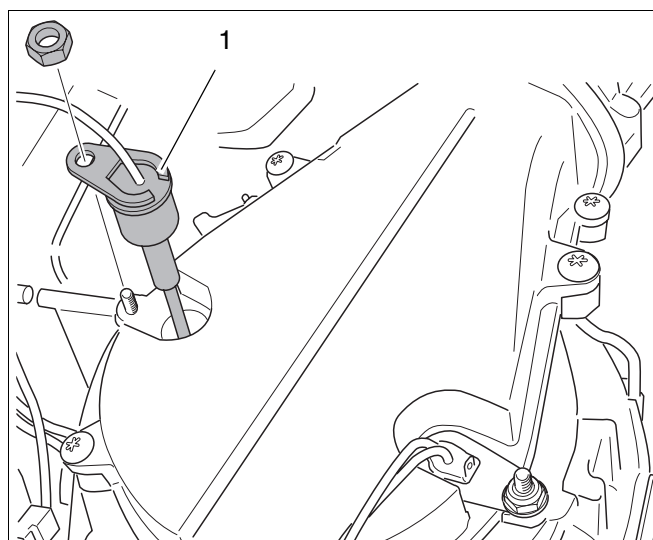

fig. 91 Remove ionisation electrode
- Remove the ionisation electrode (see fig. 91, item 1).